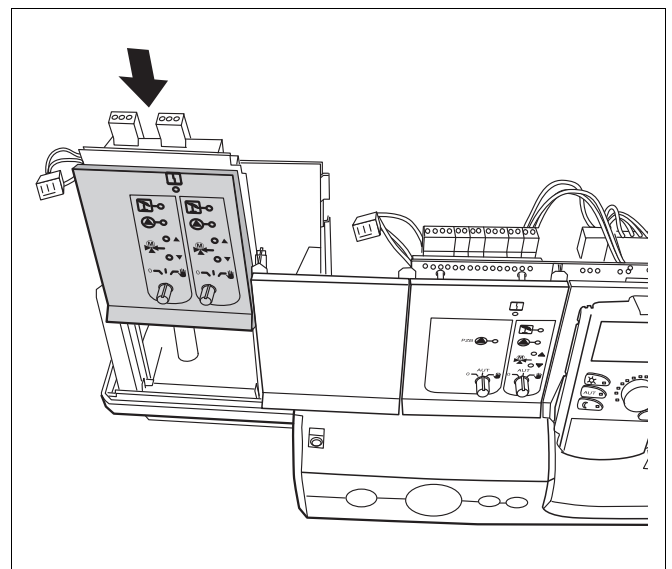

Fig. 5 Function module installation
- Push the function module into the slot (→ Fig. 5) until a click is heard/felt.
- Push a new module into the same slot (→ Fig. 5, page 7).